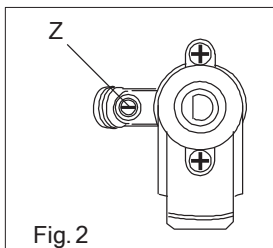

Fig. 2
- ▲ . Remove the knob from the tap, The minimum adjusting screw «Z» is on the body of the gas tap (Fig. 2).